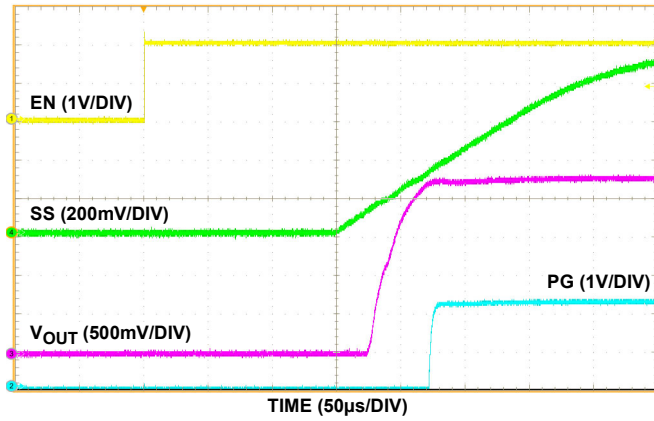

FIGURE 14. ENABLE START-UP SS CAP 1nF
If the current limit for inrush current is acceptable in the application, do not use the soft-start (SS) feature (leave the SS pin open). The soft-start circuit controls the rate at which the output voltage comes up to regulation at power-up or LDO enable. The external soft-start capacitor always gets discharged to ground pin potential at the beginning of start-up or enabling. After the capacitor discharges, it will immediately begin charging by a constant current source. The discharge rate is the RC time constant of  $R_{PD}$  and  $C_{SS}$ . Refer to Figures 14 through 18 in the “Typical Operating Performance Curves” beginning on page 8.  $R_{PD}$  is the ON-resistance of the pull-down MOSFET, M8.  $R_{PD}$  is typically 323 $\Omega$ .